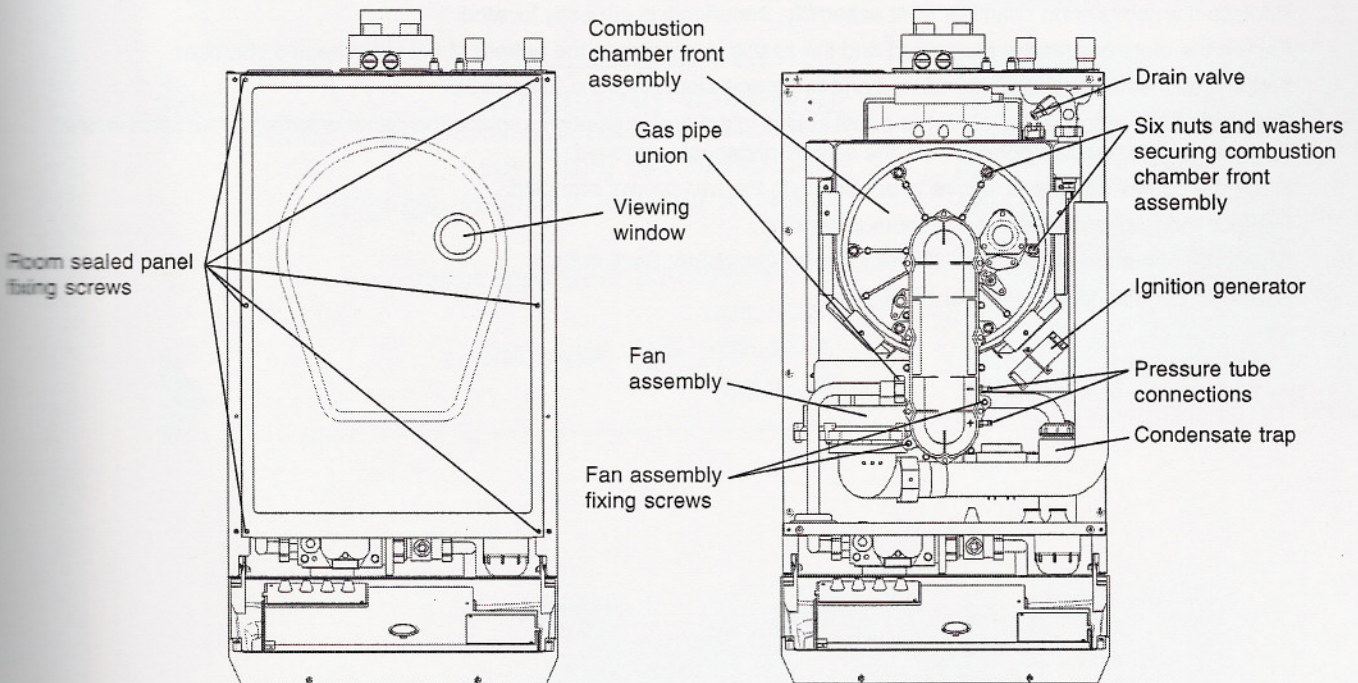

Fig. 25
### 7.2 PREPARE FOR SERVICING - Fig. 25
### 8.1 GENERAL ACCESS - Fig. 25
2. Close the central heating flow and return valves and gain access as described in Section 8.1. Connect a hose to the drain valve located in the flow pipe just above the heat exchanger (see Fig. 25) and route it to a suitable container. Open the drain valve.